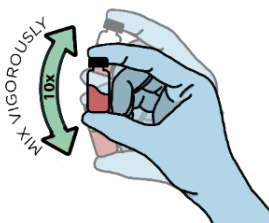

Figure 4. Vigorous Mixing as in Steps 5, 7.
5. Grasp the Sample Vial firmly and **vigorously mix 10 times** to assist in reconstitution (Figure 4). Check that there are no solids stuck to the inside wall of the vial. **If solids or clumps are observed, continue mixing until dissolved.**
7. After 30 minutes have elapsed, **vigorously mix** the Sample Vial 10 times (Figure 4).